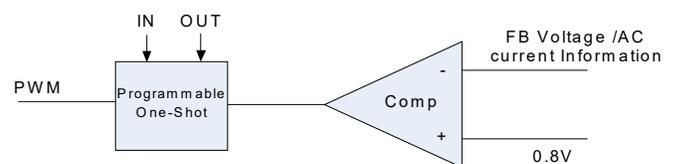

Figure 2. Simplified control schematic of AOZ2250BQI-22
The control algorithm of AOZ2250BQI-22 is constant-on-time PWM control with input feed-forward. The simplified control schematic is shown in Figure.2. The high-side switch on-time is determined solely by a one-shot whose pulse width is inversely proportional to input voltage (IN) and directly proportional to output voltage (OUT). The one-shot is triggered when the internal 0.8V is higher than the combined information of FB voltage and the AC current information of inductor, which is processed and obtained through the sensed low-side MOSFET current once it turns-on. The added AC current information can help the stability of constant-on time control even with pure ceramic output capacitors, which have very low ESR. The AC current information has no DC offset, which does not cause offset with output load change, which is fundamentally different from other  $V^2$  constant-on time control schemes.